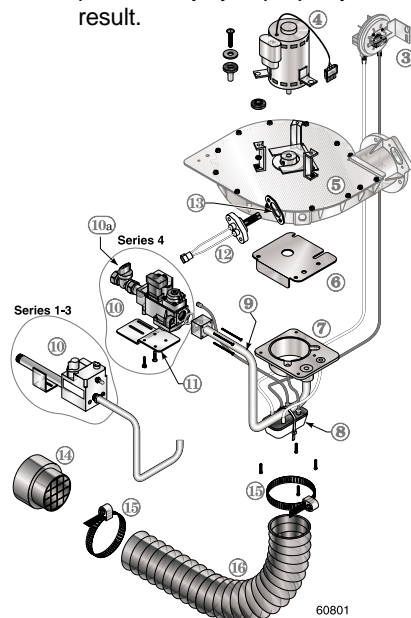

Figure 1
All hoses from gas/air manifold assembly (save to re-install). See Figure 1.
6. Re-connect hoses as shown in Figure 1. Secure wire tie or hose clamp on air inlet hose.